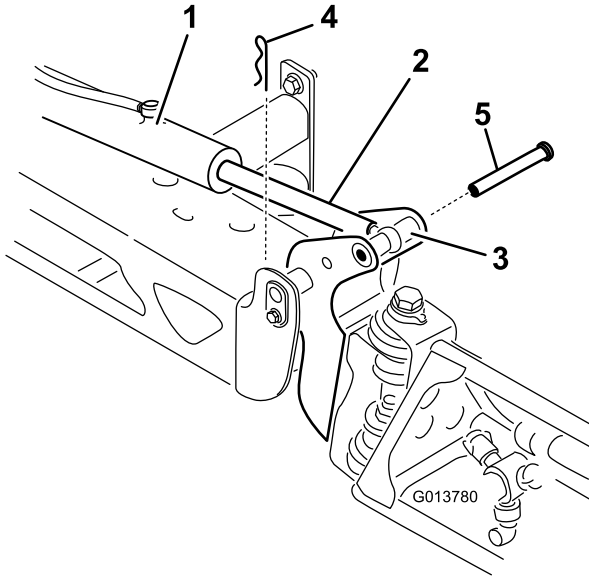

Figure 149
2. Remove the cotter pin from the pivot pin (Figure 149).
3. Lift up on the boom and remove the pin (Figure 149), and slowly lower the boom to the ground.
9. While holding the boom, insert the pin through both boom pivot and rod end (Figure 149).